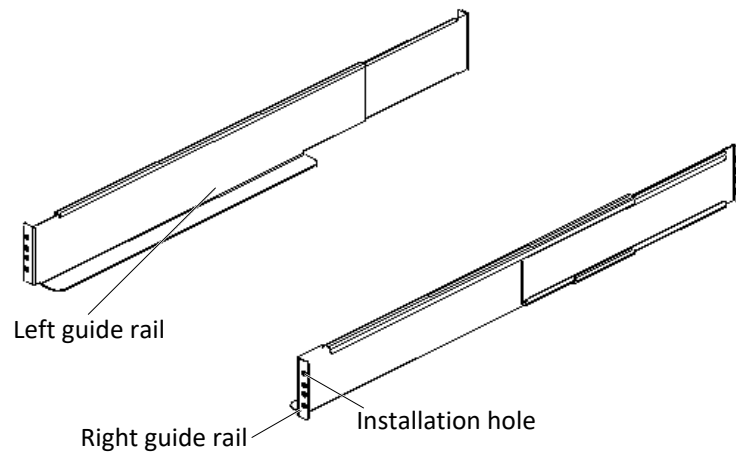

Figure 2-8 Appearance of the guide rail
a) Take out the guide rails (one left guide rail and one right guide rail), guide rail screws from the package, distinguish the left guide rail and right guide rail according to Figure 2-8, and confirm its retractable function respectively.
2. Any end of one guide rail has three installation holes (see Figure 2-8), do not use the installation hole in the middle when fixing the guide rail. We recommend using the top and bottom installation hole (from top to bottom, installation hole 1 and installation hole 4).